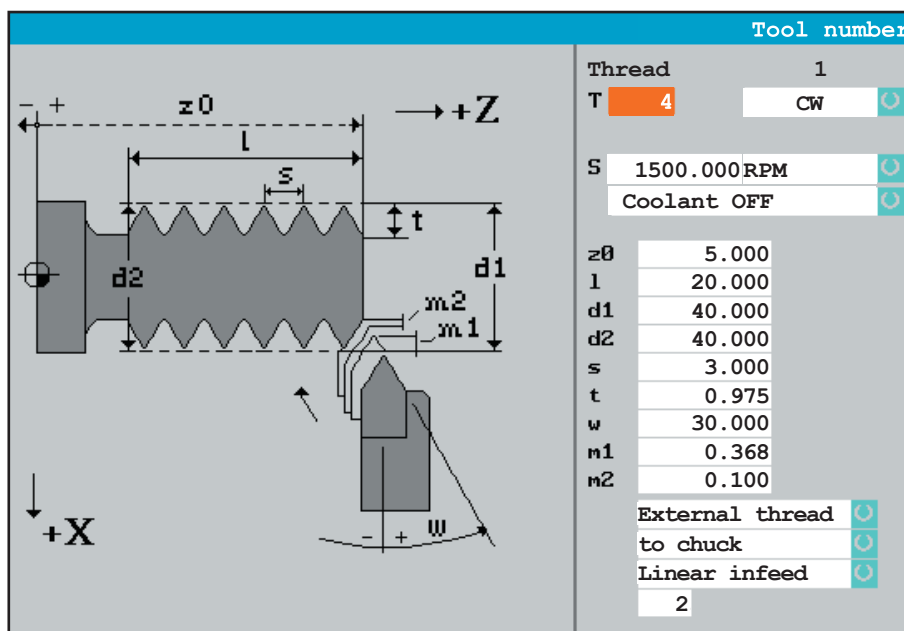

Figure 6-1. Threading Cycle Screen
- **Fill in cycle data**, according to figure 6-1